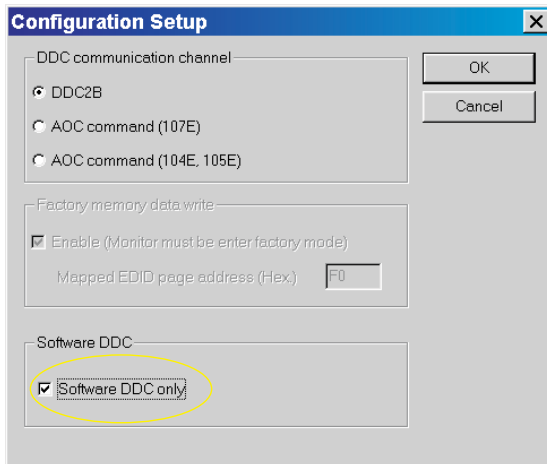
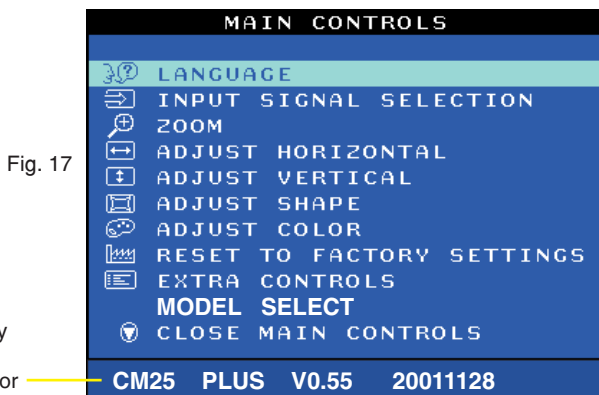

Fig. 16
Fig. 17
1. Click  icon from the tool bar to bring up the Configuration Setup windows again. Then, select "Software DDC only" as shown in Fig. 16. Click "OK".
4. Access "Factory Mode" and enable "Software DDC only" as shown in Fig. 17 & Fig. 16.